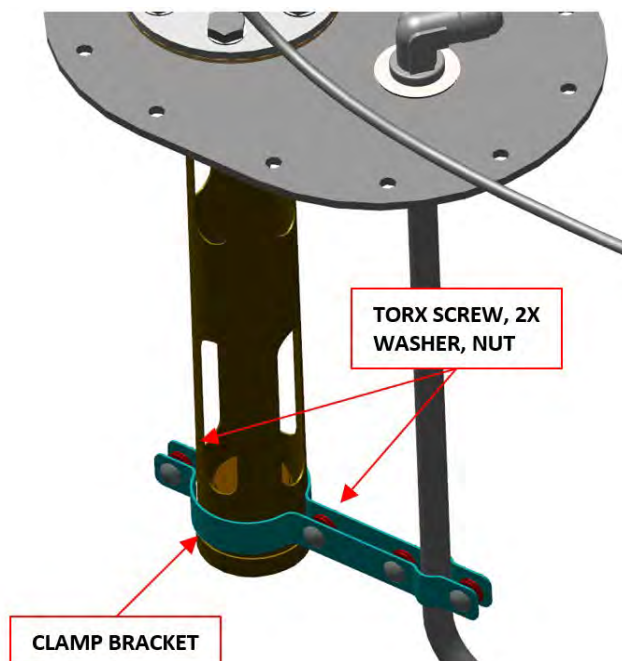

FIGURE 13-39
7. Remove the Fuel Level Sensor. See Figure 13-39.
- d. Install Torx screw, nut, and 2x washers on the Clamp Bracket. While maintaining this position, torque Torx screws on Clamp Bracket to 7-10 in-lbs. (See Figure 13-39.)